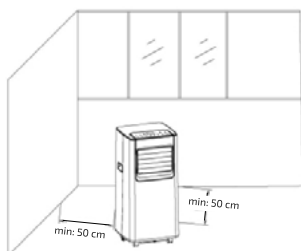

Fig. 4
- Move the machine with installed heat pipe and fittings before the window, and the distance between the body and walls or other objects shall be at least 50 cm (as shown in Fig.4).